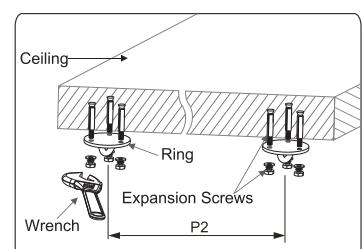

Figure 2
2. Fix the rings (not accessories) on the ceiling according the distance P2 between two hanging pieces of brake mechanism (note: make sure each of rings can endure at least 200kg) (figure 2).